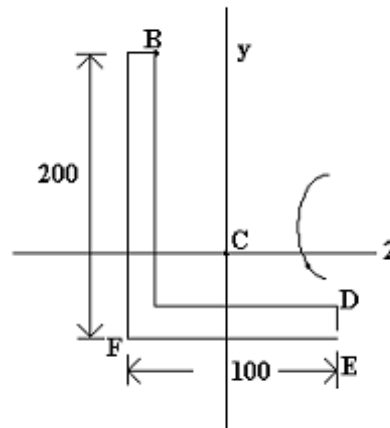

Figure 2
2. Using the general equation for elastic bending stress find the stresses at points B and F for the angle section shown in figure 2. The applied moment is  $M_z = 10$  kNm